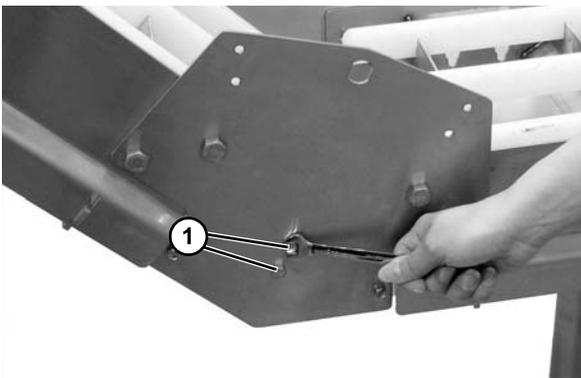

Figure 66
4. Remove two cap screws (**Figure 66, item 1**) and the inner belt return guide (**Figure 67, item 1**). Repeat on opposite side of the conveyor.